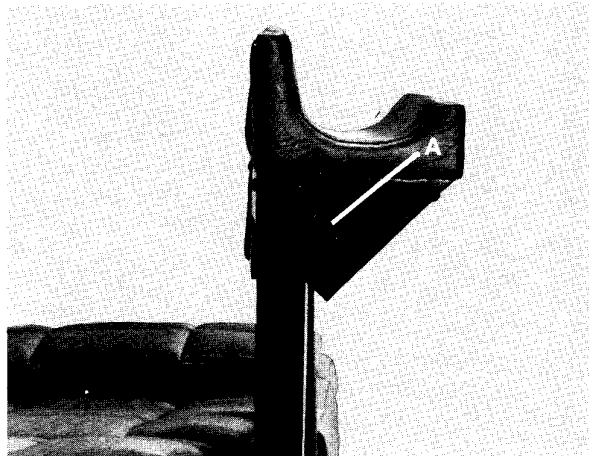

Fig. 43
- 1) Remove the (2) screws, Item A, Fig. 43.
- 5) Replace the (2) #10-32x $\frac{3}{8}$ " screws, Item A, Fig. 43.